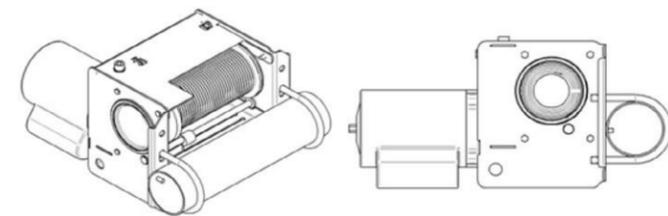

Figure 1
MOUNTING WINCH TO A PIPE (FIG. 1)
1. Use the two pipe clamps supplied to secure the winch to a standard 3" (3 1/2" O.D.) standard pipe. The use of clamps for a standard 3 1/2" (4" O.D.) pipe can be provided upon request at the time of order. The pipe clamps will line up with the two pairs of mounting holes on the front flange of the winch (see fig. 1).